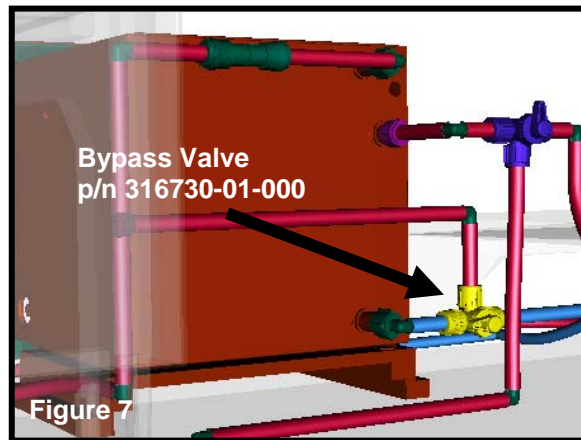

Figure 1
1. Remove drawer (Figure 1) and access panel (Figure 2) from wardrobe. **Note:** wardrobe door was removed for better clarification of process.